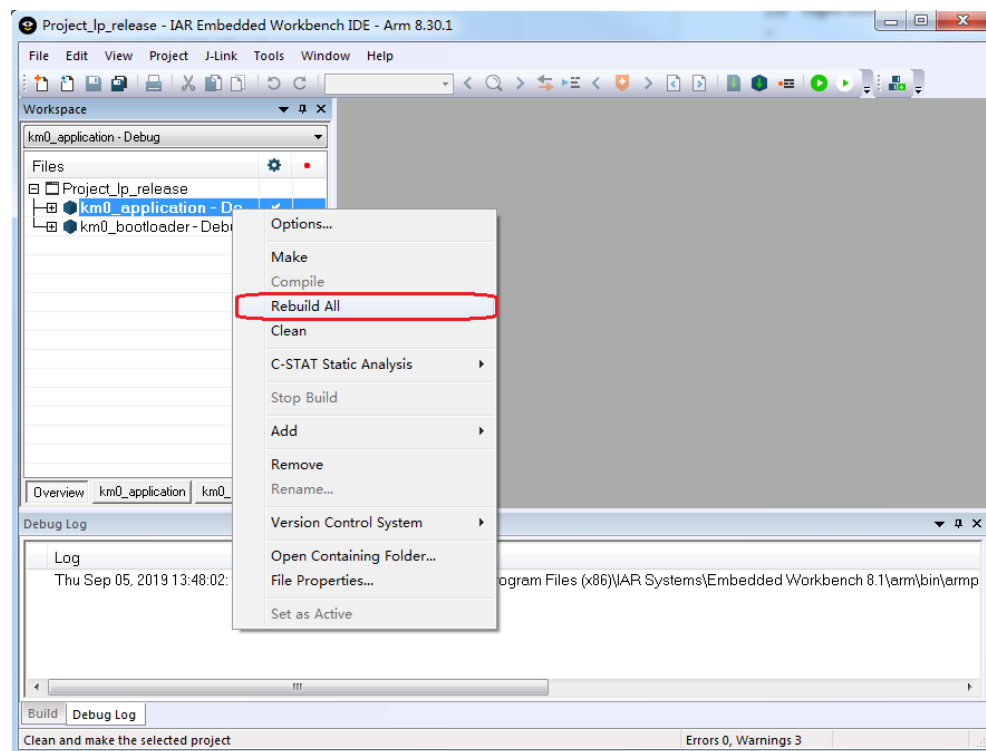

Fig 3-2 Building KM0 project
- (3) Right click the project and choose “Rebuild All”, as Fig 3-2 shows. The km0_bootloader and km0_application should compile in order.